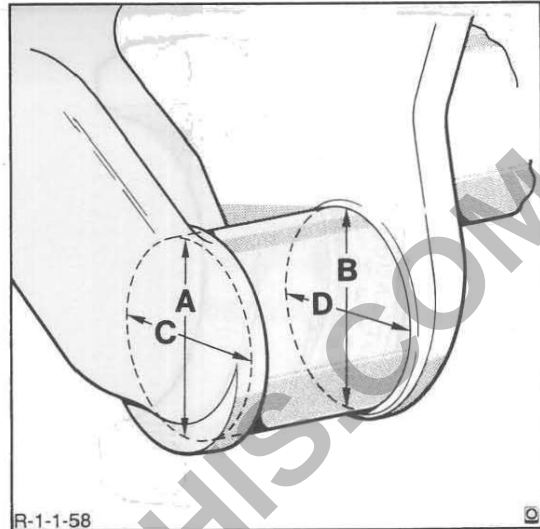

Figure 55
3. Measure the diameter of each journal in four places to determine out-of-round, taper or wear, Figure 55. Measurement 'A' compared with 'B' indicates vertical taper whilst measurement 'C' compared with 'D' indicates horizontal taper. Measurements 'A' and 'B' compared with 'C' and 'D' indicate journal out-of-round.
1. Position the balancer gears and thrust washers in the housing with the timing marks aligned and facing the roll pin side of the balancer. Install the shafts from the opposite side and secure with the roll pins, Figure 55.